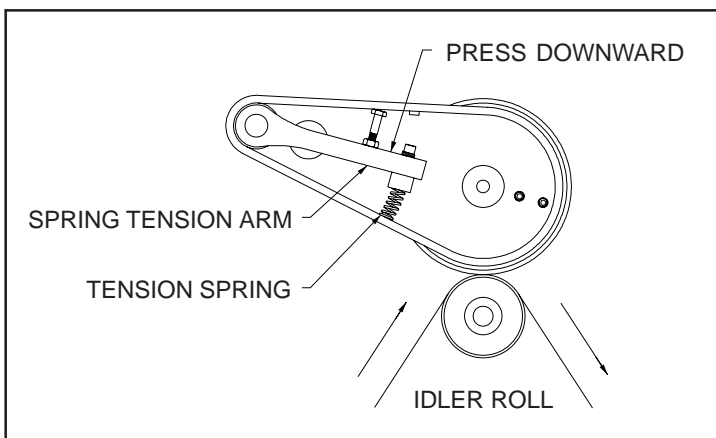

FIGURE 35
**3 - Press down lightly on the spring tension arm to compress the tension spring slightly. (Figure 35) While holding a light pressure on the arm, tighten the mounting bracket clamping screw.**